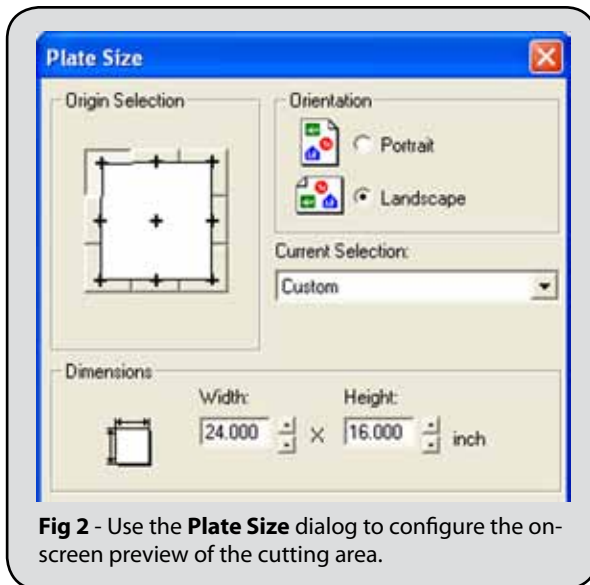

Fig 2 - Use the **Plate Size** dialog to configure the on-screen preview of the cutting area.
- Change the plate size via **Layout** menu >> **Plate Size**. (Fig. 2)